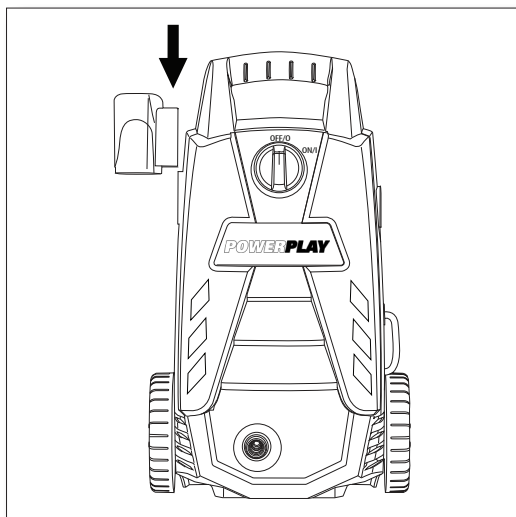

Fig. 2
- Slide the spray gun holder onto the left side of the washer when facing it. This does not require any screws. (**Fig. 2**)